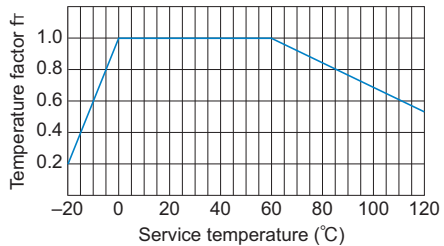

Fig.2 Temperature Factor
If the temperature of the screw nut exceeds the normal temperature range, the seizure resistance of the nut and the strength of the material will decrease. Therefore, it is necessary to multiply the dynamic permissible thrust (F) by the corresponding temperature factor indicated in Fig.2.
f_r : Temperature factor (see Fig.2)